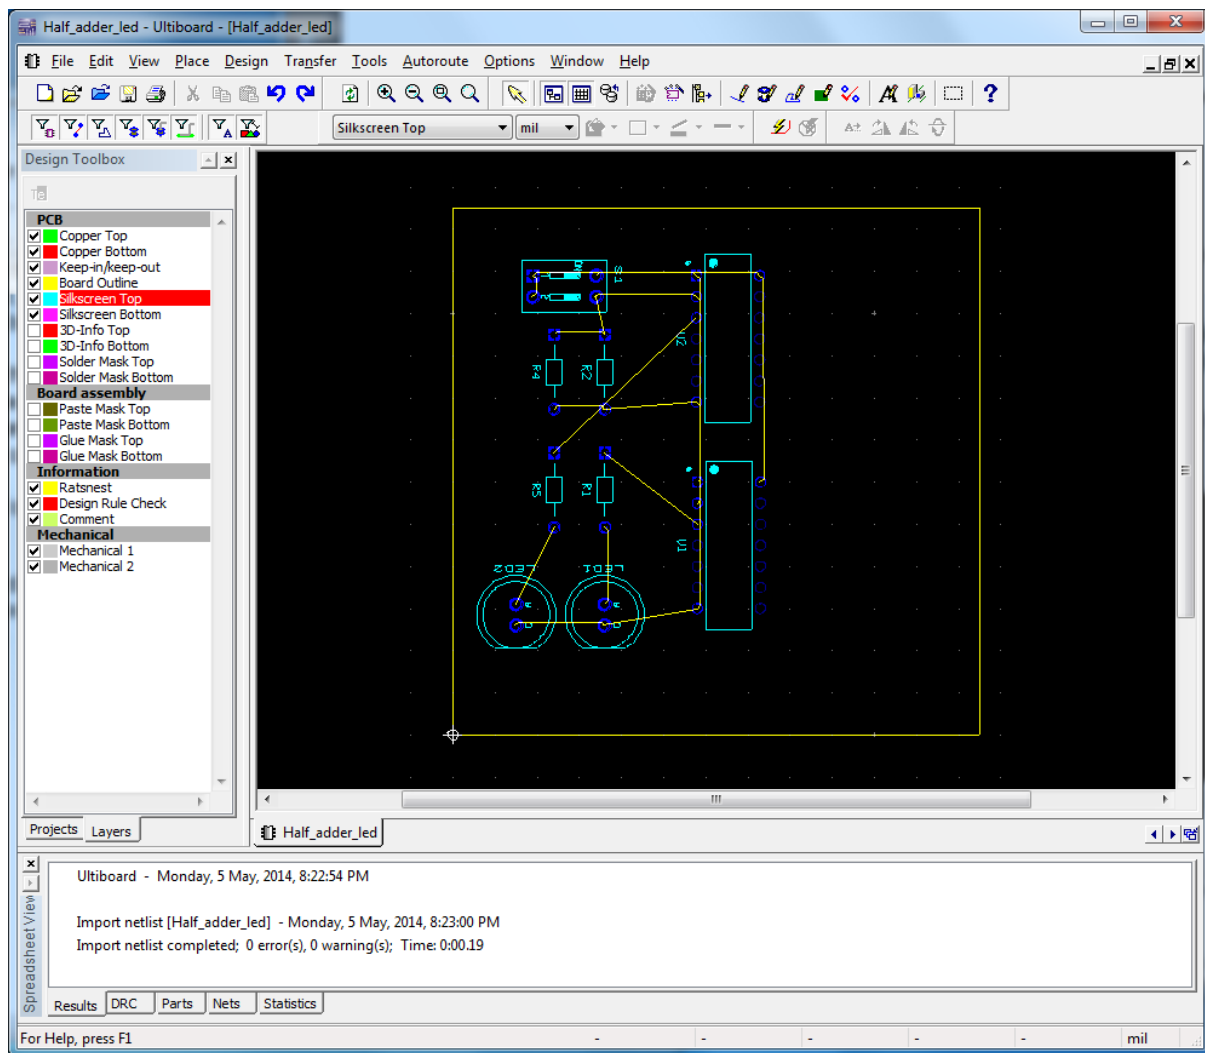
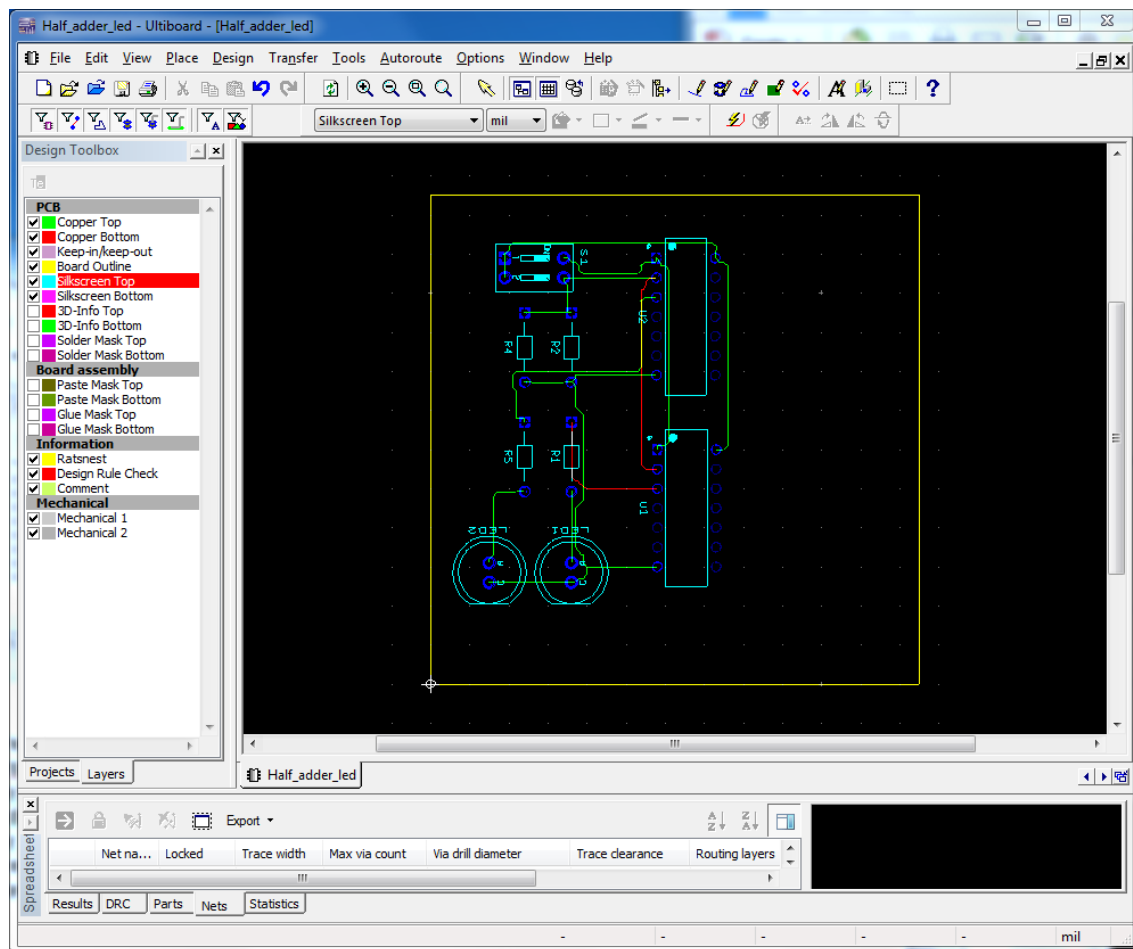

Figure 15: Placement of the components inside board area
Figure 19 PCB after auto-routing
9. Begin placing the components inside the yellow rectangle. There are many different ways this board could be laid out and it takes practice to make efficient boards. Use Figure 15 as an example of where to put components, or feel free to create your own unique layout.
14. Figure 19 PCB after auto-routing shows an example of what the board from Figure 15 looks like after routing.